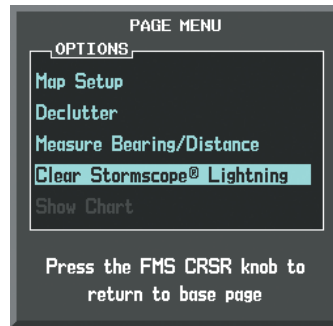

Figure 6-115 Navigation Map Page Options Menu
- 2) Select 'Clear Stormscope® Lightning' (Figure 6-115).